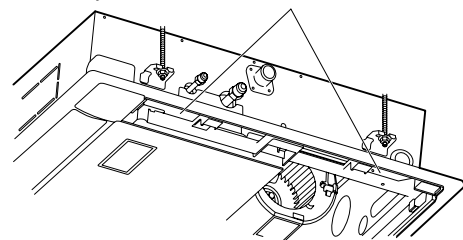

Fig. 9-8
- If there is a gap between the panel and the ceiling surface, leave the panel attached and make fine adjustments to the installation height of the indoor unit to eliminate the gap with the ceiling surface. (Fig. 9-8)